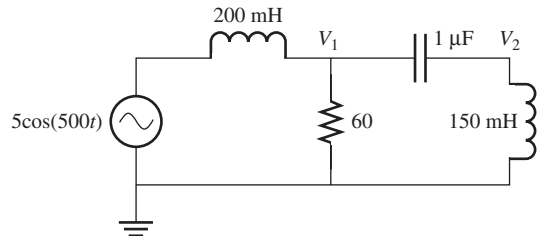

FIGURE P6.42 Circuit for Problem 6.42.
6.42 (A) Find the steady-state expressions for V_1 and V_2 in Figure P6.42.